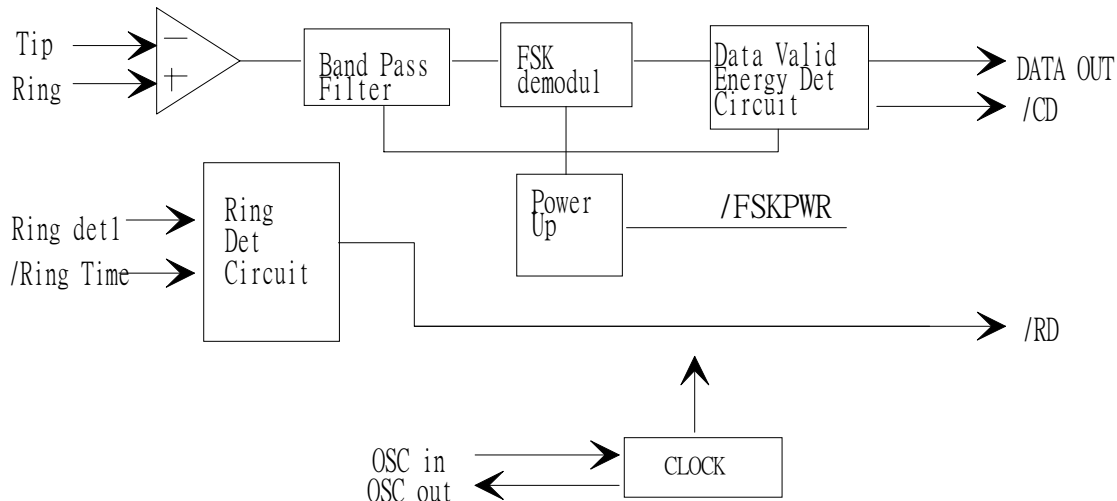

Fig15. FSK Block Diagram
- Bit 2~4 (Bias1~Bias3) Control bits used to choose LCD operation voltage. The circuit can refer the Figure15.